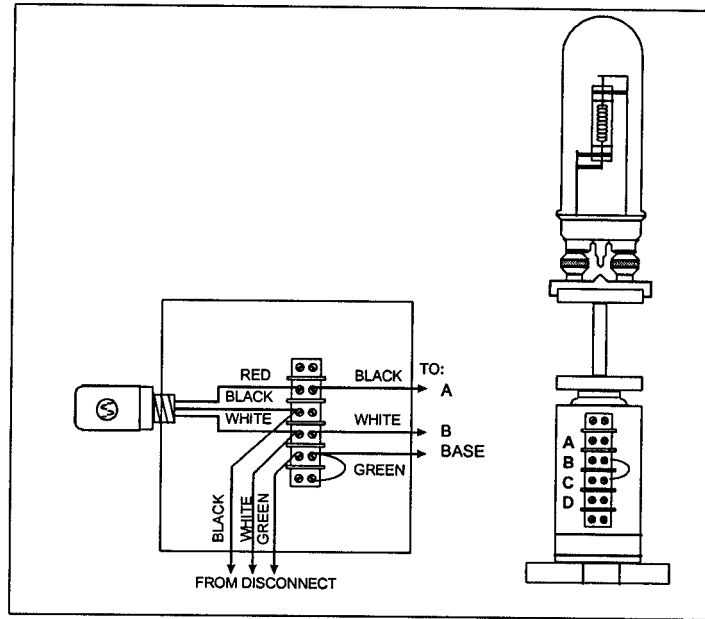

Figure 2-19
- i. Nighttime fixed burning lights may be controlled by an Intermatic K-4121 photocontrol mounted away from the lens to prevent light from the lamp affecting its operation. The photocontrol can be installed in a small enclosure and wired to a terminal strip as shown in Figure 2-19. Alternately, daylight controlled fixed and flashing lights can be operated by an AC Flash Controller.